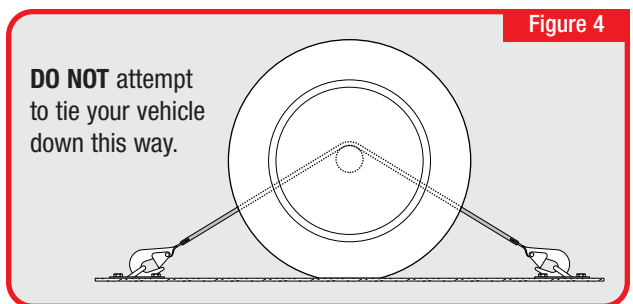

Figure 4
- 1 NEVER tie your vehicle down with the tie-down strap across the top of an axle. Vehicle will move back and forth either breaking the tie-down or will pull the tie-down mounting point from the trailer. Figure 4.